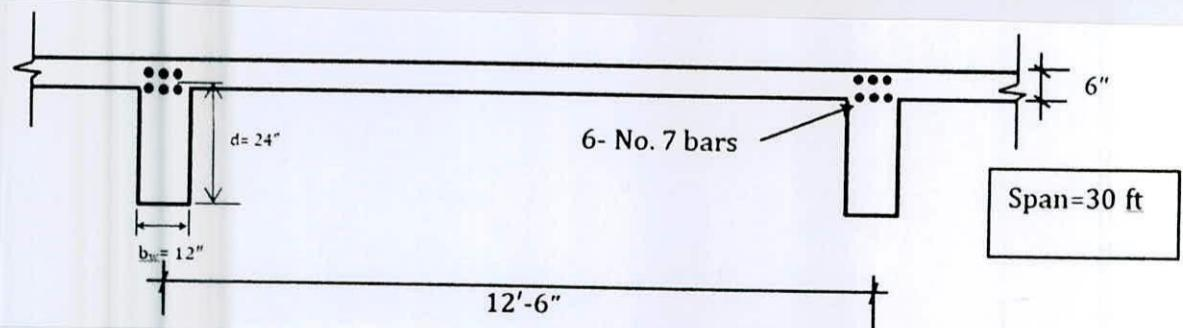
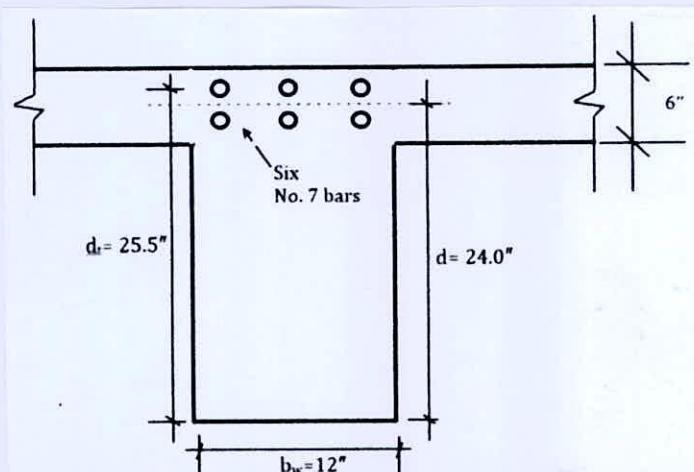

Figure 5: Section at support
Figure 6: Beam Section at support in detail
- (b) For the same floor system, as in Question 7(a), at the support there are 6#7 bars in two rows at the top as shown in Figure 5. Assume $d = 24.0$ ", $d_t = 25.5$ " as shown in detail in Figure 6. What is the nominal and design negative moment capacity of the beam at the support? Check ε_t . (18)